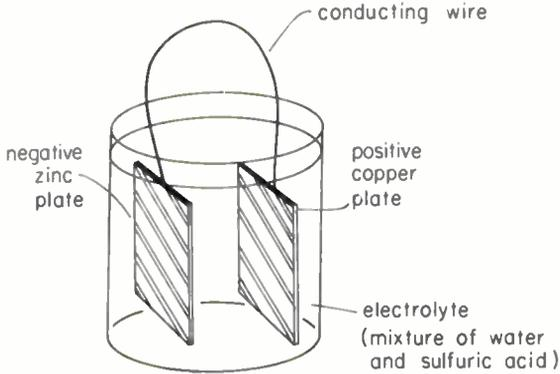

Fig. 19 Simple battery
3. You can make a simple battery by submerging a zinc plate and a copper plate into an acid solution, as shown in Fig. 19. Current will flow through the conducting wire between the two plates. In order to have a current, there must be two oppositely charged bodies with a conducting path between them. Since current flows through the conducting wire in Fig. 19, the battery plates must be *(uncharged)* *(charged with the same polarity)* *(charged with opposite polarity)*.
4. The action of the acid solution in Fig. 19 keeps the zinc plate continuously negatively charged and the copper plate continuously positively charged. Free electrons will therefore be repelled through the connecting wire from the *neg.* plate, and attracted to the *positive* plate. Therefore, the direction of electron flow through the connecting wire is from the *Neg.* plate to the other plate.